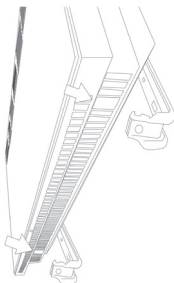

Figure 8. Placing the convector to the lower part of the wall mounting brackets
5. Back side of the Electric Panel Convecter Heater with arrow sign will be placed to the plastic part of the wall mounting brackets as shown in the figure 8. (↓)